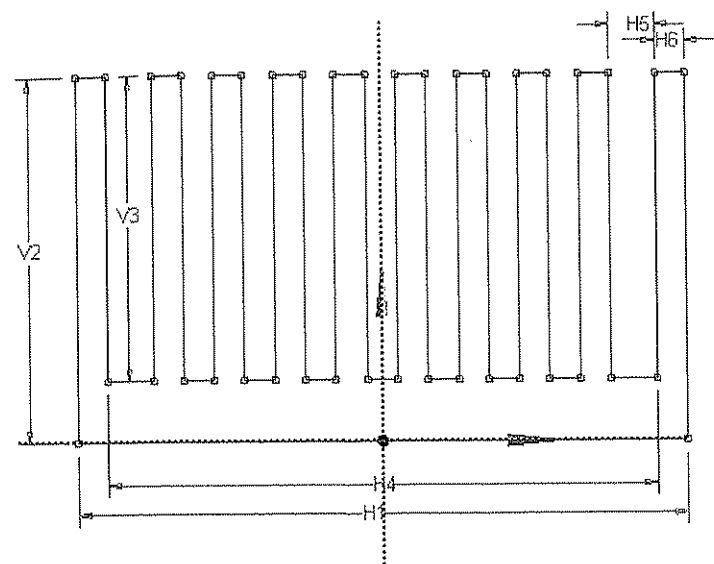

Figure 11-49 Sketch for creating the model
7. In the **DesignModeler** window, draw a sketch on the XY plane, refer to Figure 11-49.